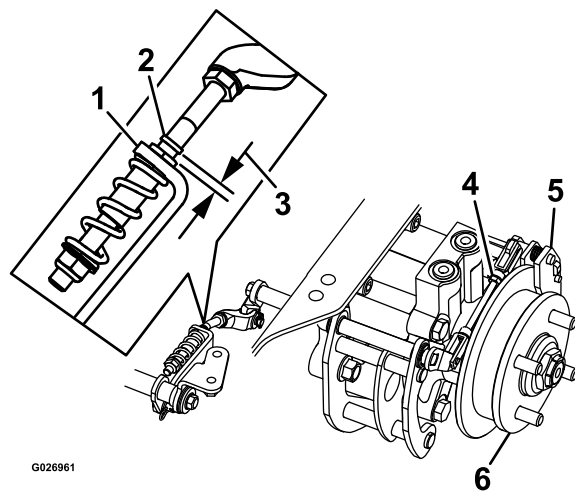

Figure 87
7. Check to see if there is a visible gap between the L-bracket and the linkage stop (Figure 87).